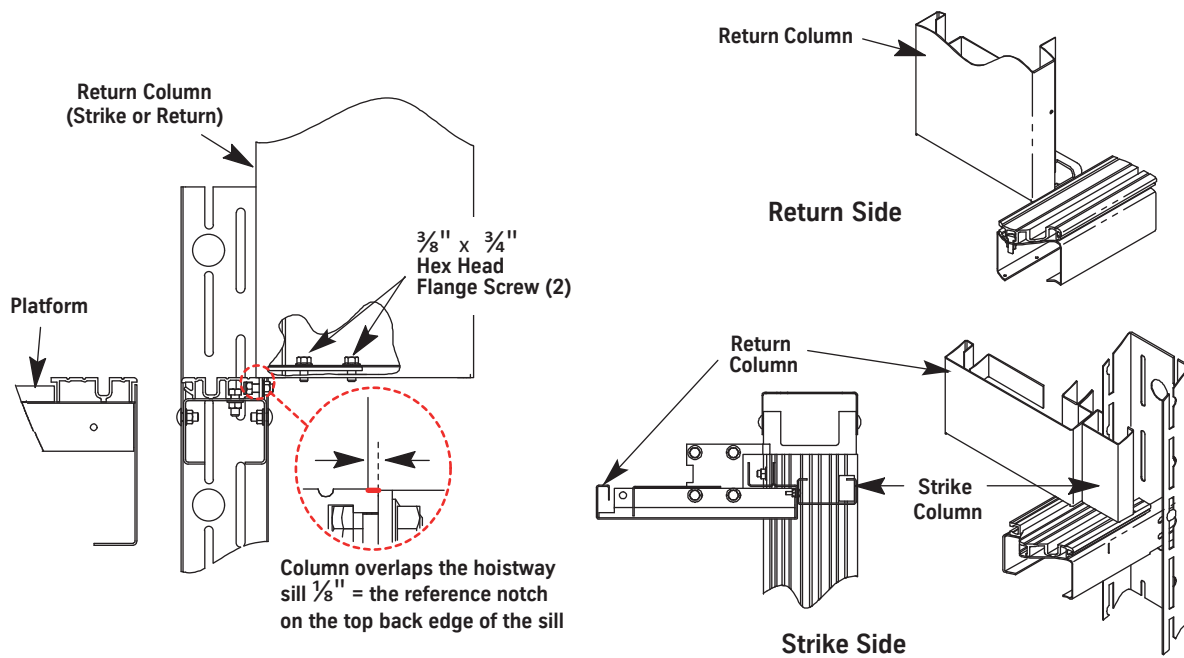

Figure 34 - Attach the Frame (standard sill shown)
2. Align the frame columns so that they overlap the hoistway sill $1/8"$ (the depth of the cutout on the top back edge of the hoistway sill). See Figure 34.